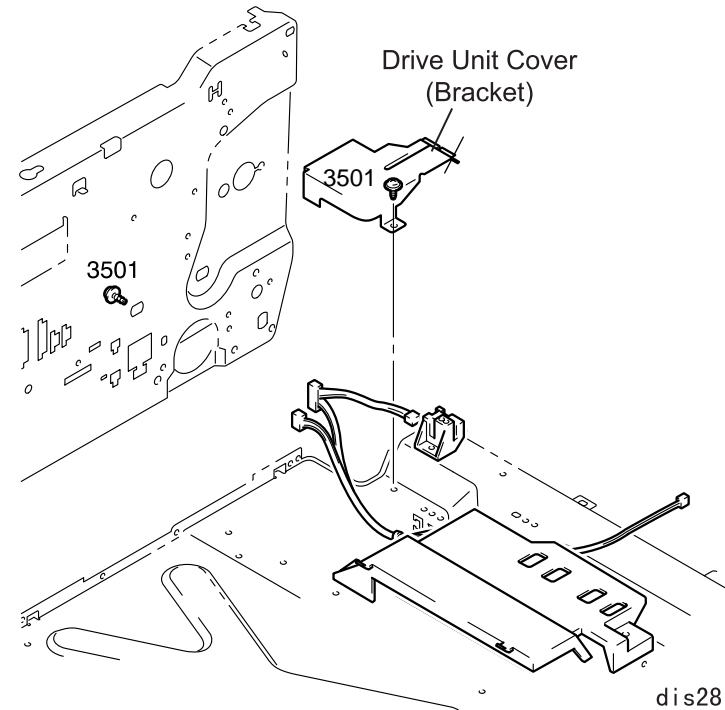

Figure 4-55. Drive Unit Cover Removal
10. Remove three screws (3501) securing the Drive Unit Cover (mounting plate) to the printer frame and remove the mounting plate. (See Figure 4-55.)